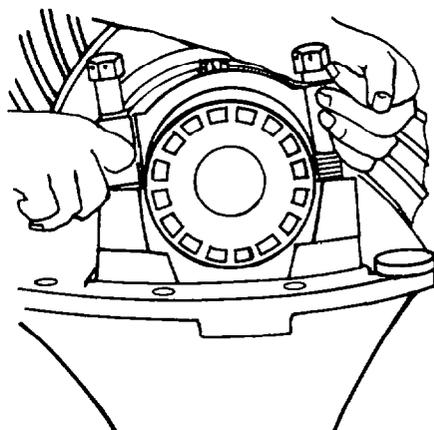

Fig. 361 — Installing Bearing Caps
- e. Lubricate the differential bearings, then install the crownwheel and differential assembly in the carrier (item 28). Fit the bearing cups (items 9 and 23), bearing adjusters (items 8 and 24) and the bearing caps (item 7) to the assembly. Install the bearing cap retaining bolts and washers (items 4 and 6) and tighten finger-tight (see fig. 361).